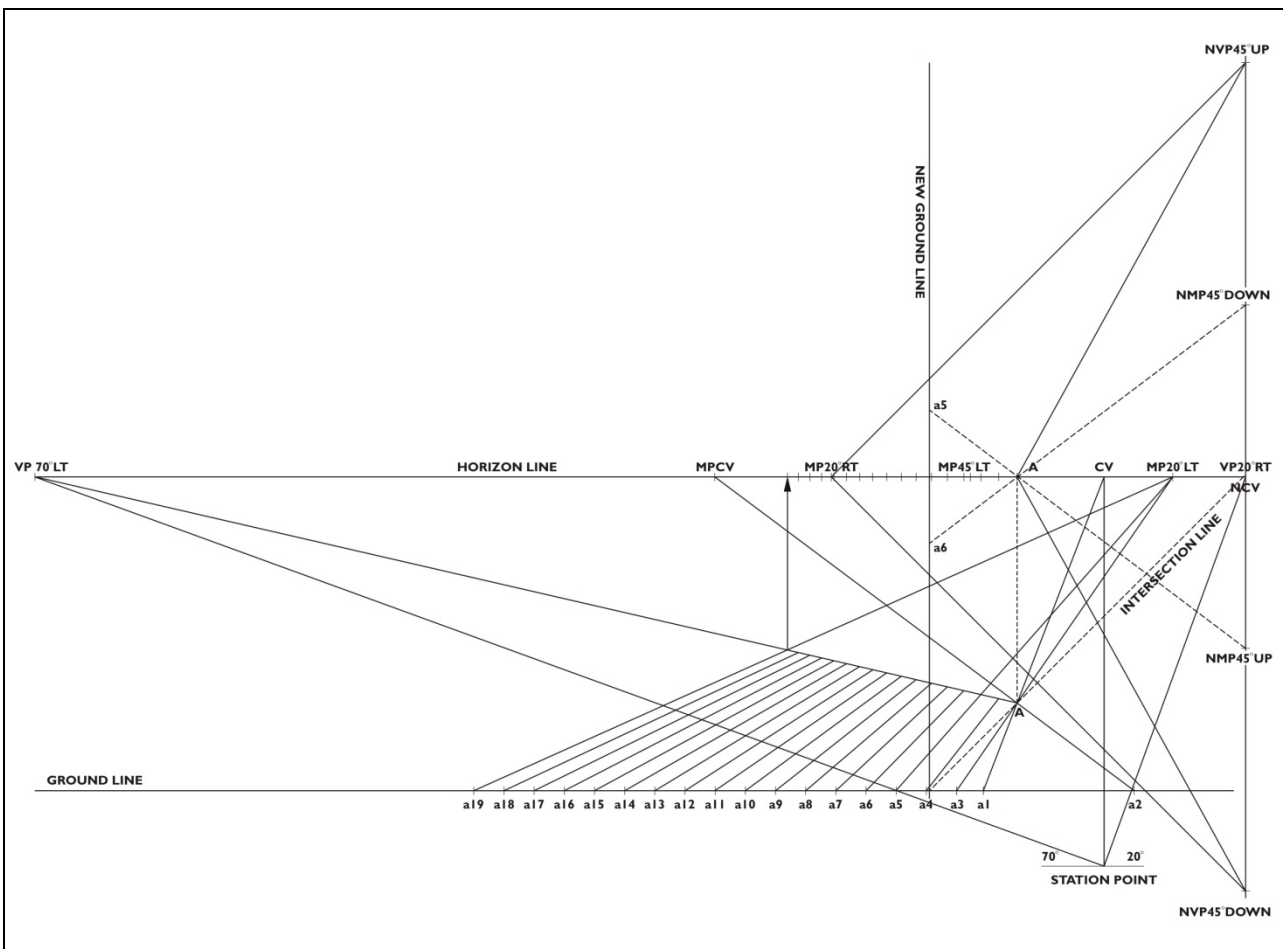

Figure 5.14 Construction of Three-Point Perspective Grid
12. Complete the other NVP in the same way. Project both NMP 45° Down and NMP 45° Up through the new raised point (A) onto the New GL and label (a5) and (a6). Refer to Figure 5.14.